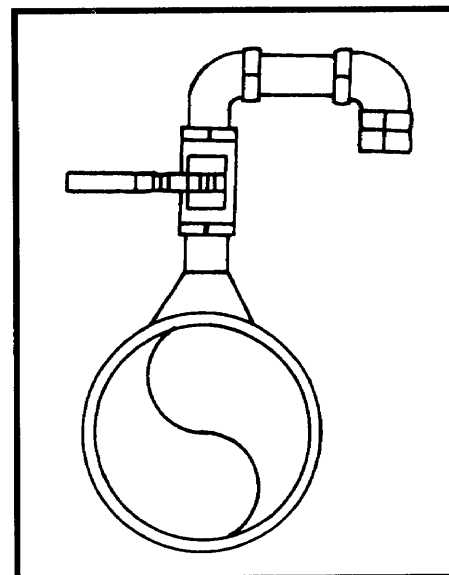

Figure 2-8. Pipeline vent assembly
(6) Pipeline Vent Assembly. This assembly is made up of a 1-foot-long section of steel pipe that is grooved on both ends to receive the single-grooved coupling clamp (Figure 2-8). The assembly has a 3/4-inch vent tube with a 3/4-inch ball valve. A vent assembly is installed at high points to vent air from the system. It can also be installed as a low-point drain.